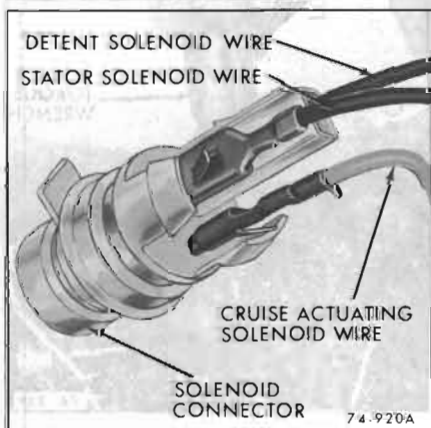

Figure 75-929—Installing Stator, Detent and Actuating Solenoid Wires
4. Install stator, detent, actuating solenoid wires into case connector. See Figure 75-929.